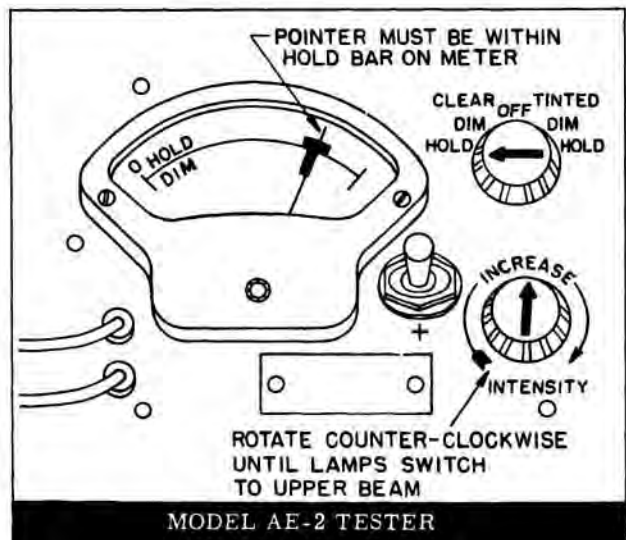

Fig. 12-48 Hold Sensitivity Test
10. Slowly turn Intensity Rheostat counterclockwise just to point where headlamps switch to upper beam. The meter pointer should now read in the Hold Sensitivity Adjustment Bar on the meter scale. (Fig. 12-48)
4. Adjust tester Intensity Rheostat until meter pointer is at center of Hold Sensitivity bar. (Fig. 12-48)